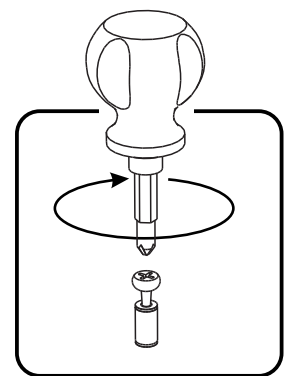

Figure 1
Insert Cam Lock Screws into pre-drilled in Top (A), Side Panels (B), (C) and Back Rail (G), then tighten. (See Figure 1)